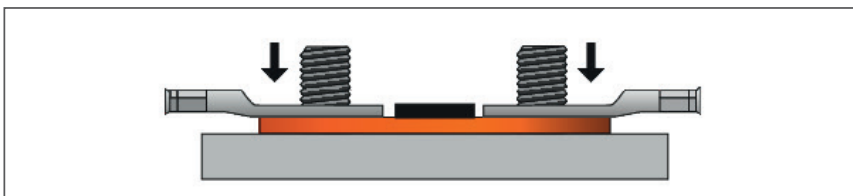
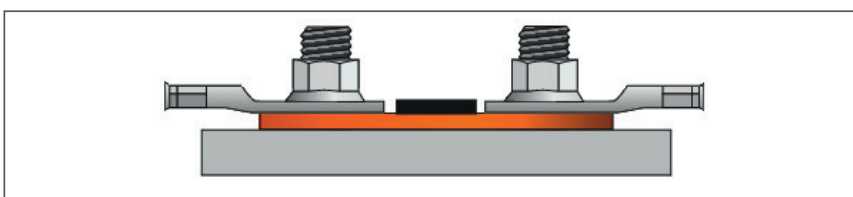
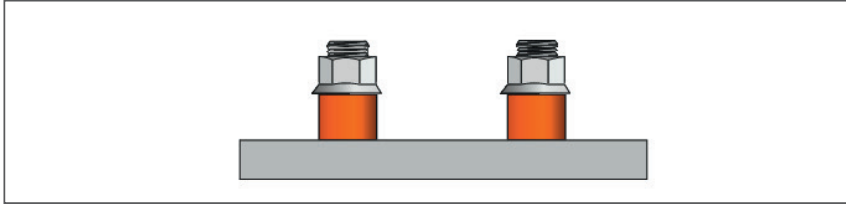

Fig. 5-38: HV BM 1.2+S, braided shield HV-, placing the ring terminals on the threaded bolts
Fig. 5-39: HV BM 1.2+S, power cable HV-, fastening the ring terminals with the M8 nuts
Fig. 5-40: HV BM 1.2+S, power cable HV+, loosen and remove the M8 nuts
The ring terminals used for connecting the HV- shield to the shunt for shield current measurement are mounted as shown in Fig. 5-38 and Fig. 5-39 regardless of the cable cross-section.
☞ Solder the twisted and tinned braided shield strands (Fig. 5-39) to the solder lugs of the feedthrough (Fig. 5-40, ⑤).
☞ Provide suitable insulation (heat-shrink tubing/insulation tape) for the exposed braided shield (Fig. 5-39).